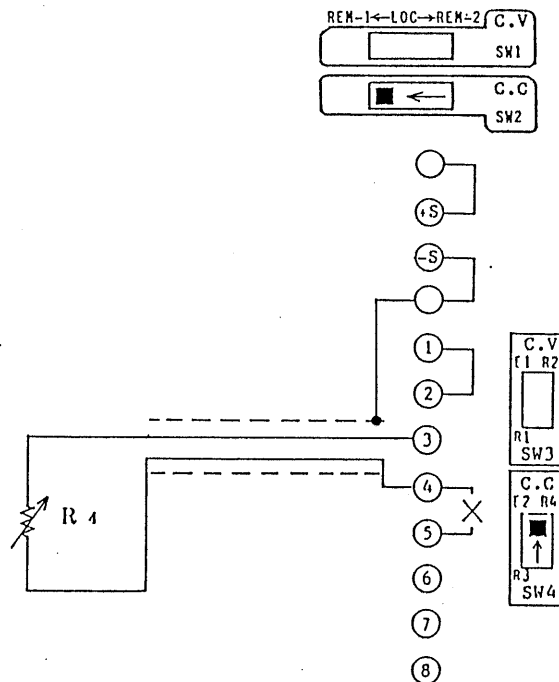

Figure 4-10
- (1) Turn off the POWER switch.
- (2) Throw the SW2 switch of the rear panel to REM-1.
- (3) Throw the SW4 switch of the rear panel to R4.
- (4) Disconnect the jumper from between terminals ④ and ⑤ of the rear terminal block.
- (5) Connect a control resistor R4 between terminals ③ and ④.
- (6) Regarding the switches for which no settings are specified in Figure 4-10, set them to the standard states as shown in Figure 2-25 (See Section 2.4.) or to appropriate states for respective modes (See Sections 4.1 through 4.11.).